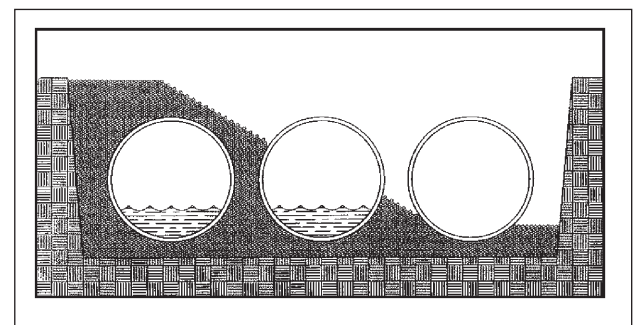

FIGURE 17-2
17.3.1. If the preferred method outlined above is not possible or practical, an alternate method is described here. See FIGURE 17-2.